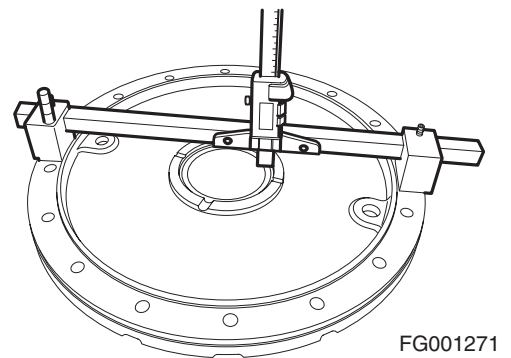

Figure 98
- C. Measure cover step with a special gauge as shown in Figure 98.